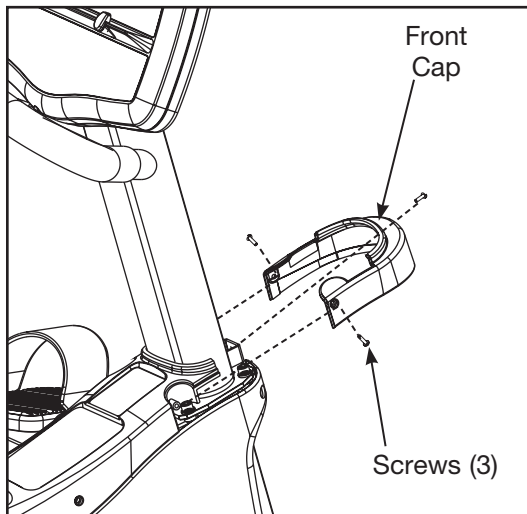

Figure 9
- A. Using a Phillips head screwdriver, remove the three screws securing the front cap in place. See Figure 9.